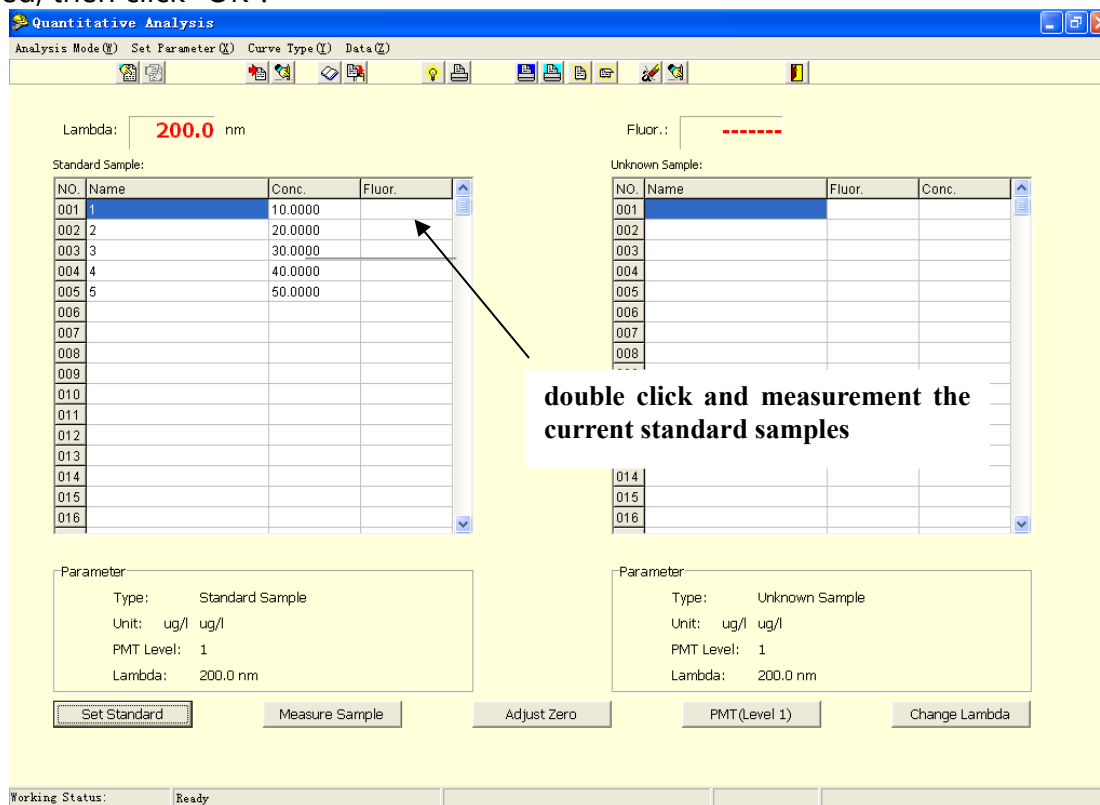

Fig. 2-19 Interface of Quantitative Analysis
The interface of quantitative analysis is shown in Fig. 2-19. On the left is the display box of Standard Sample and on the right is the display box of Unknown Sample.
Place the blank solution into the light path. Click the "Adjust Zero" button (See Fig.2-19). At this time the fluorescence value on the upper right of the interface becomes 0.0.
In the "Standard Samples" in the interface of quantitative analysis, 5 rows of data of standard samples input in are listed respectively (See Fig.2-19). When measuring, put the No.1 standard sample into the sample compartment. Then double click the row of the No.1 standard sample. The display of "Under Measurement" will appear on the bottom of the interface. A few seconds later, fluorescence value (F) will be displayed. Repeat the above procedures until the fluorescence values of all standard samples are measured out.